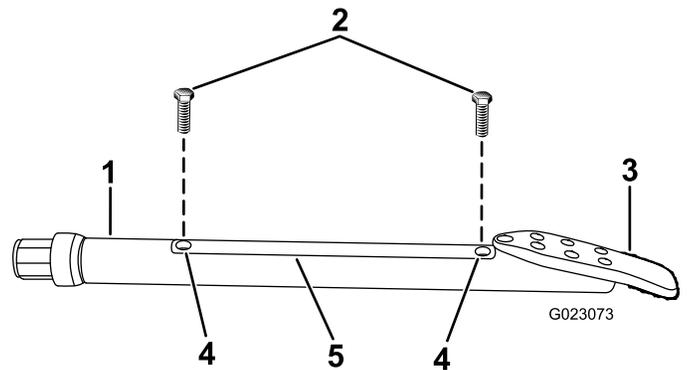

Figure 50
2. Loosen the screws securing the housing cover to the housing and remove the cover (Figure 50).
4. Install the housing cover and secure it with the screws (Figure 50).